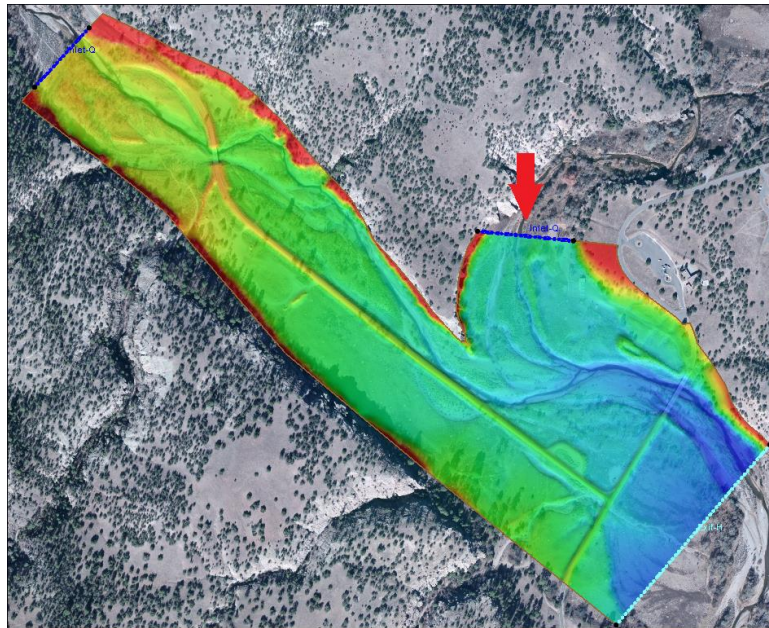

Figure 2 Inflow boundary condition
3. Use the **Select Feature Arc**  tool and double-click on the Inlet-Q inflow boundary shown in Figure 2. This will open the *Linear BC* dialog.